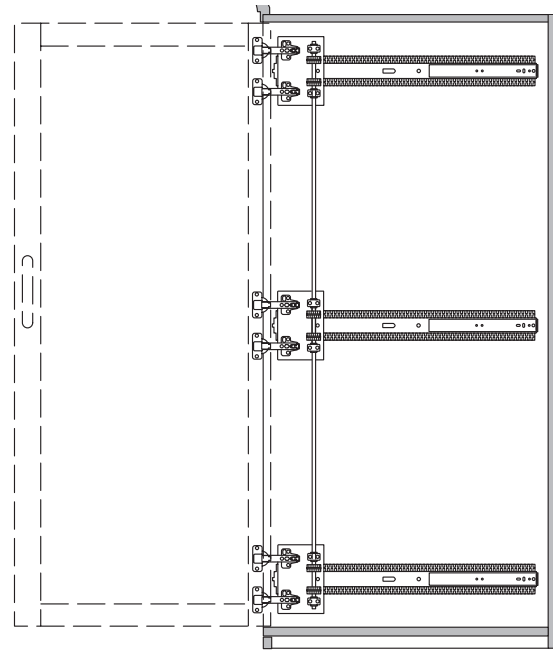

figure 11
- Recommended maximum door dimension: 26" wide x 72" high. For some types of door construction where door center bow may be an issue, a third slide may be used (see fig. 11).